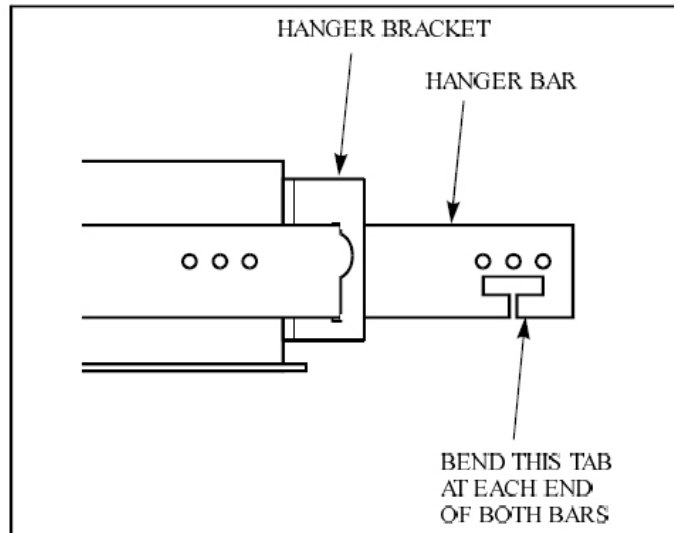

Figure 2
7. Refer to Figure 2 to orient the hanger bars properly and slide them through the brackets.